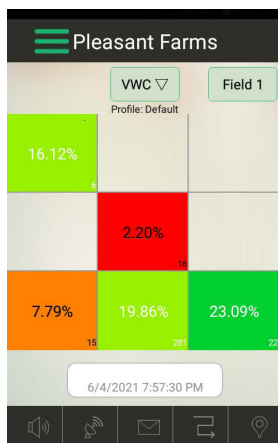
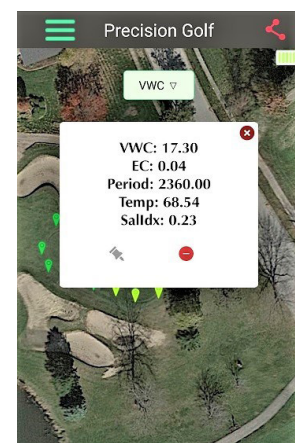

Figure 7a - Grid Mode
Figure 8 - Freeform Mode
10. Confirm that the meter you are using appears at the top of the screen. If you are in Grid mode, tap a zone (Figure 7a/b). Freeform readings will appear as a pushpin on the map (Figure 8)